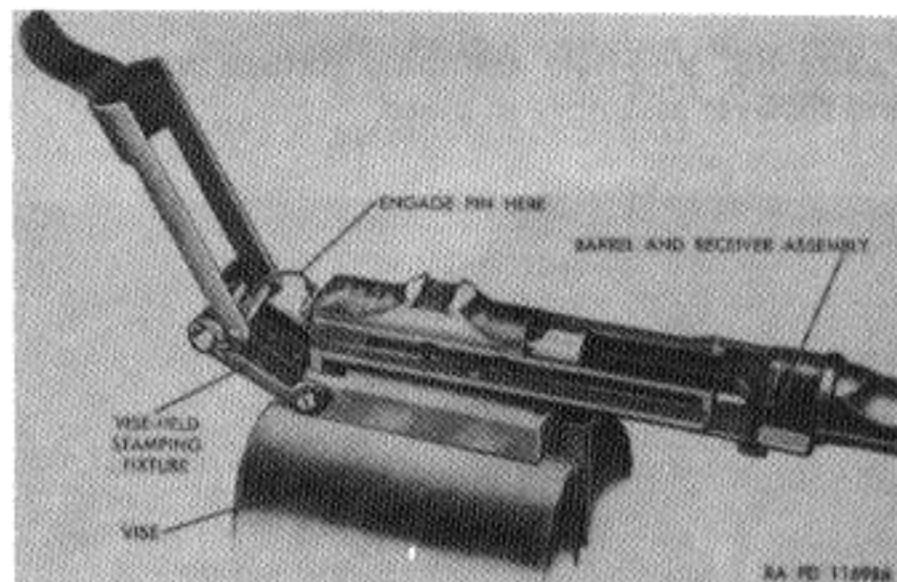
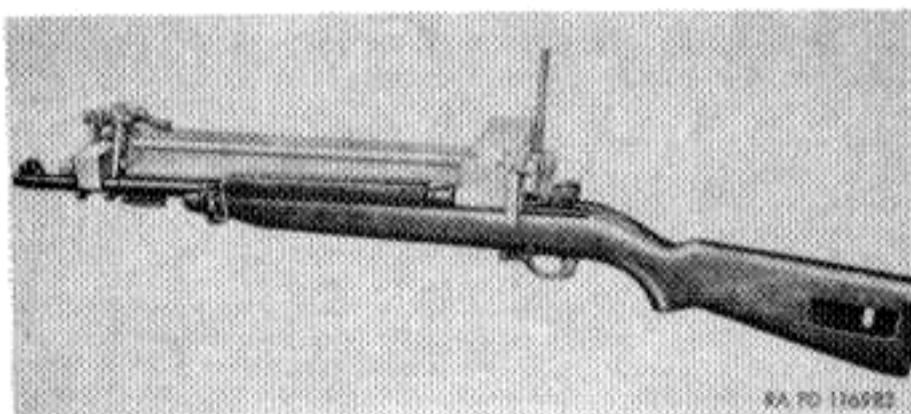

Figure 87. Placement of barrel and receiver assembly in vice-held stamping fixture.
Figure 89. Carbine clamped in bench-mounted stamping fixture.
(2) *Obscured serial numbers (DEPOT MAINTENANCE ONLY)*. Maintenance organizations engaged in restamping serial numbers will fabricate fixtures locally to reinforce and clamp the receiver during the stamping operation. Two fixtures have been developed for this purpose; the vise-held stamping fixture (Figs. 87 and 88) and the bench-mounted stamping fixture (Figs. 89 and 90). The choice of fixture which best suits the requirements of the maintenance organization is left to the discretion of that organization.
1. Secure fixture firmly in vise as shown in figures 87 and 88.
2. Clamp the barrel and receiver assembly in the fixture (Figs. 87 and 88).
2. Remove the bolt from the carbine and clamp the carbine in the fixture, as indicated in figures 89 and 90.